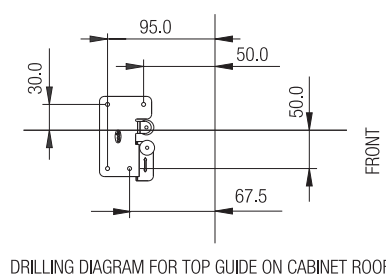

Fig. 4
4. Top guide is to be fitted onto Cabinet roof as per Fig 4. Use No. 8 x 19 wood screws.